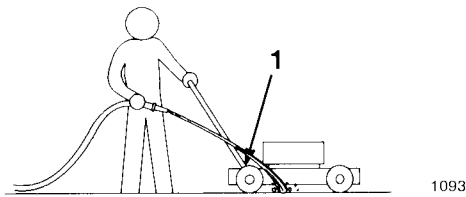

Figure 18
3. Hold the running garden hose at handle level and direct the water to flow on the ground just in front of the right rear wheel (Fig. 18).